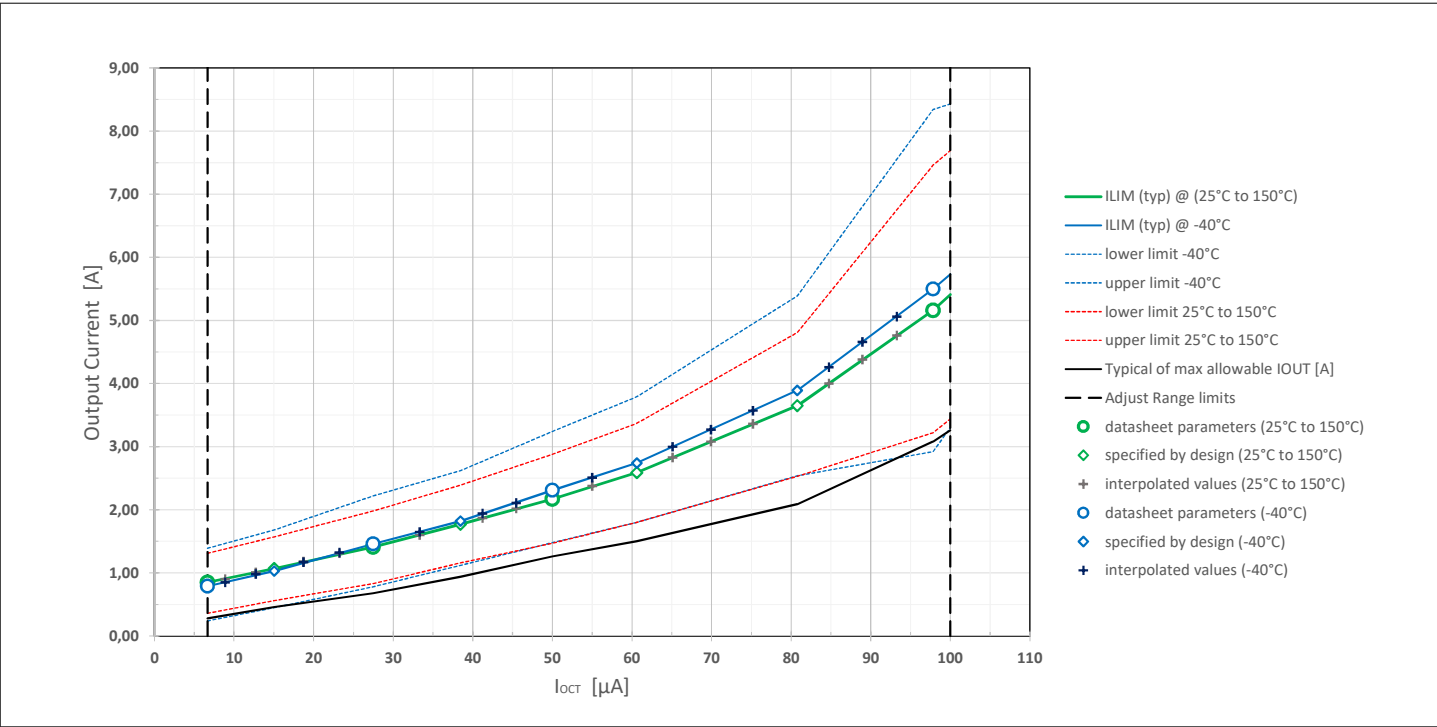

Figure 31 Current limitation threshold $I_{LIM(th,adj)}$ as function of I_{OCT} and related limitation values for different temperatures
Table 13 below indicates which resistor value R_{OCT} needs to be soldered between OCT-pin and device GND to obtain a desired current limitation threshold $I_{LIM(th,adj)}$. The adjusted current limitation threshold is defined for ambient temperature ($T_j = 25^\circ\text{C}$) and hence, these values coincide with the typical values of the current limit at 25°C . Table 13 provides an overview of the related minimum and maximum values of the current limit. The column "Typical of maximum allowable I_{OUT} [A]" provides information about the required distance of the output current to the adjusted current limit setting in order to avoid unwanted activation of the current limitation circuit during normal operation. This clearance needs to be respected for the nominal load current of a given application and represents an upper limit for the allowable nominal load current²⁾. As the typical values of a selected current limit do not vary significantly from $T_j = 25^\circ\text{C}$ up to $T_j = 150^\circ\text{C}$ for most of the I_{OCT} - settings the given maximum and minimum values of the current limit listed in Table 13 hold true for the temperature range $25^\circ\text{C} \leq T_j \leq 150^\circ\text{C}$. Deviations that have to be expected for the typical values of the current limit at 150°C can be seen in Figure 31.
Figure 31 moreover illustrates how the current limitation values will shift for low temperatures. Table 13 provides typical values for the current limitation for the extreme case of $T_j = -40^\circ\text{C}$ and an overview of corresponding minimum and maximum values for the current limitations.
- 1) $I_{LIM(th,adj)}$ values coincide with typical values of the current limit I_{LIM} @ 25°C . Typical values for I_{LIM} @ 150°C may show deviation from $I_{LIM(th,adj)}$; see Figure 31 for further details